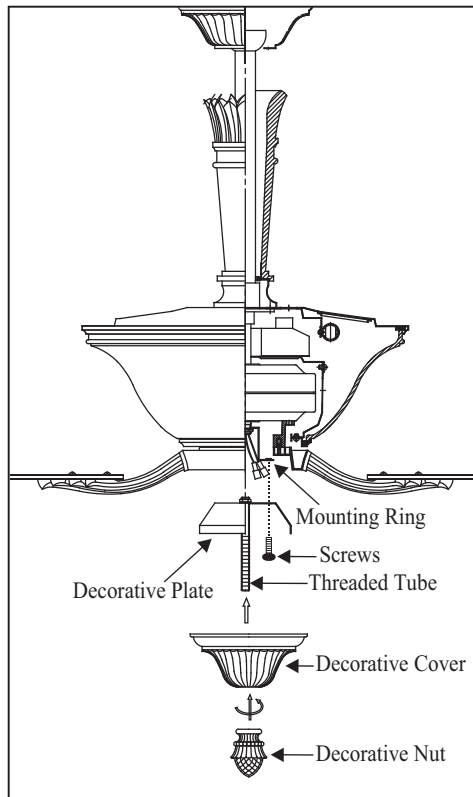

Figure 15
1. Remove 1 of the 3 screws from the mounting ring, loosen the other 2 screws (Do not remove). (Fig. 15)
2. Place the key holes on the decorative plate over the 2 screws previously loosened from the mounting ring, turn the decorative plate until it locks in the place of the narrow section of the key holes. Secure the decorative plate by tightening the 2 screws loosened and the one removed previously. (Fig. 15)
3. Place the decorative cover and decorative nut onto the threaded tube of decorative plate and secure tightly. (Fig. 15)